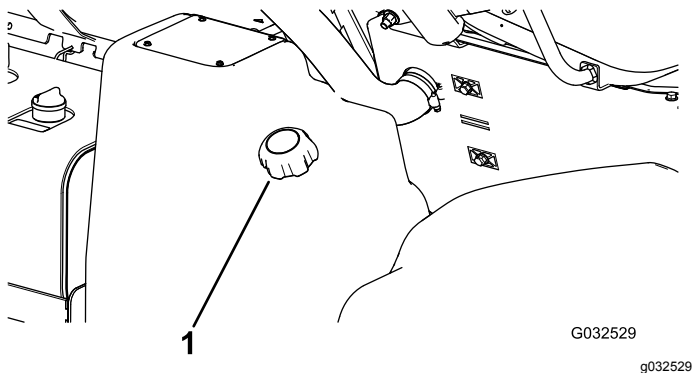

Figure 40
2. Clean the area around the fuel-tank cap (Figure 40).